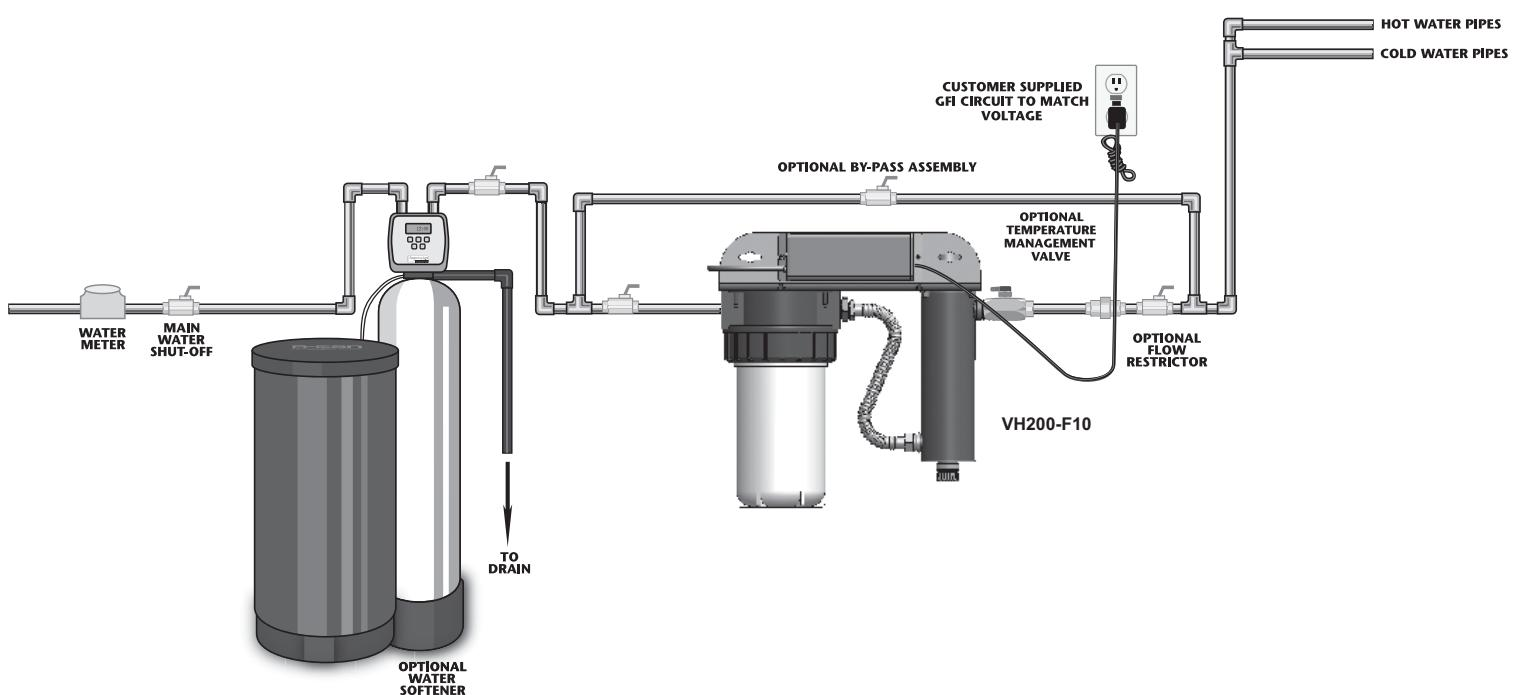

Figure 2 Disinfection System
- Figure 2 shows the installation of a typical drinking water system and the related components that may be used for the installation. The use of a bypass assembly is recommended in case the system requires “off-line” maintenance. If this is the case, it must be noted that the system will require supplementary disinfection of the distribution system if any water is used during this bypass condition. In addition, during bypass, the water will NOT be disinfected and a “DO NOT CONSUME THE WATER” tag should be physically installed on the bypass assembly until such time as the system is sanitized and returned to service. Please refer to Section 3.2 for the complete disinfection procedure. If the water is to be consumed while the system is off-line, the water must be boiled for two minutes prior to consumption.